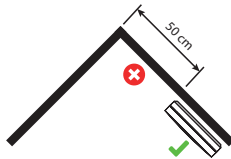

Figure 3: min. 50 cm
- Sloping ceilings: mount the smoke detector between 50 and 100 cm from the highest point of the ceiling (see Figure 3).